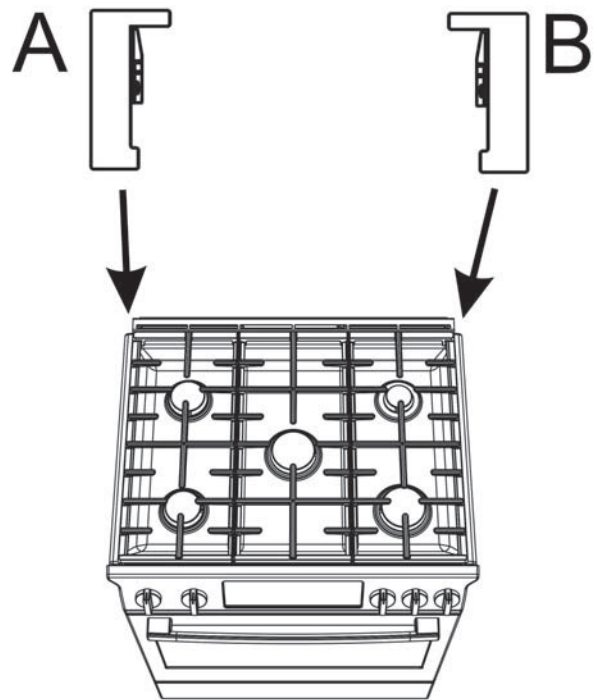

Figure 1: Identify right and left corner covers
If the range is already installed, can the range slide out enough to give access to the side screws of the rear trim? See Figure 1: Identify right and left corner covers and Figure 2: Rear trim side screw location.
2. Identify which corner cover piece is to be attached to the left (A) and right (B) rear of the range. See Figure 1: Identify right and left corner covers.